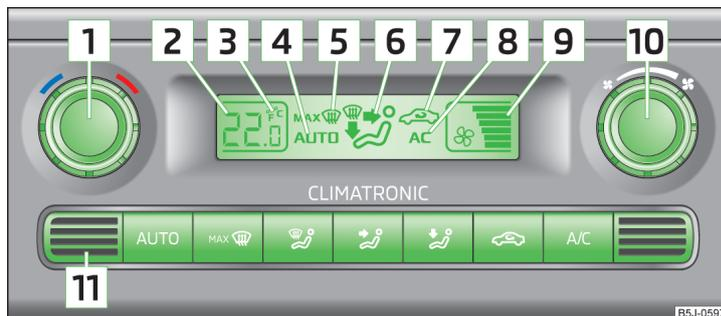

Fig. 97 Climatronic: Control elements
Do not stick anything on or cover the interior temperature sensor **11** » Fig. 97; it could have an unfavourable effect on the Climatronic system.
- Press the **AUTO** button » Fig. 97 on page 90; **AUTO** will appear in the display.
- Turn the control dial **1** » Fig. 97 on page 90 to the left or to the right to increase or decrease the temperature.
The information appears in the display in the desired temperature unit (no. **3** » Fig. 97 on page 90).
- Press the ☞ button » Fig. 97 on page 90.
- Press the ☞ button » Fig. 97 on page 90 again.
- Turn control dial **10** » Fig. 97 on page 90 to the left or to the right to increase or decrease the blower speed.
The blower speed set is indicated by displaying the corresponding number of segments in icon **9** » Fig. 97 on page 90 in the display.
➤ Press the **MAX** button » Fig. 97 on page 90.
➤ Press the **MAX** button » Fig. 97 on page 90 again or press the **AUTO** button.